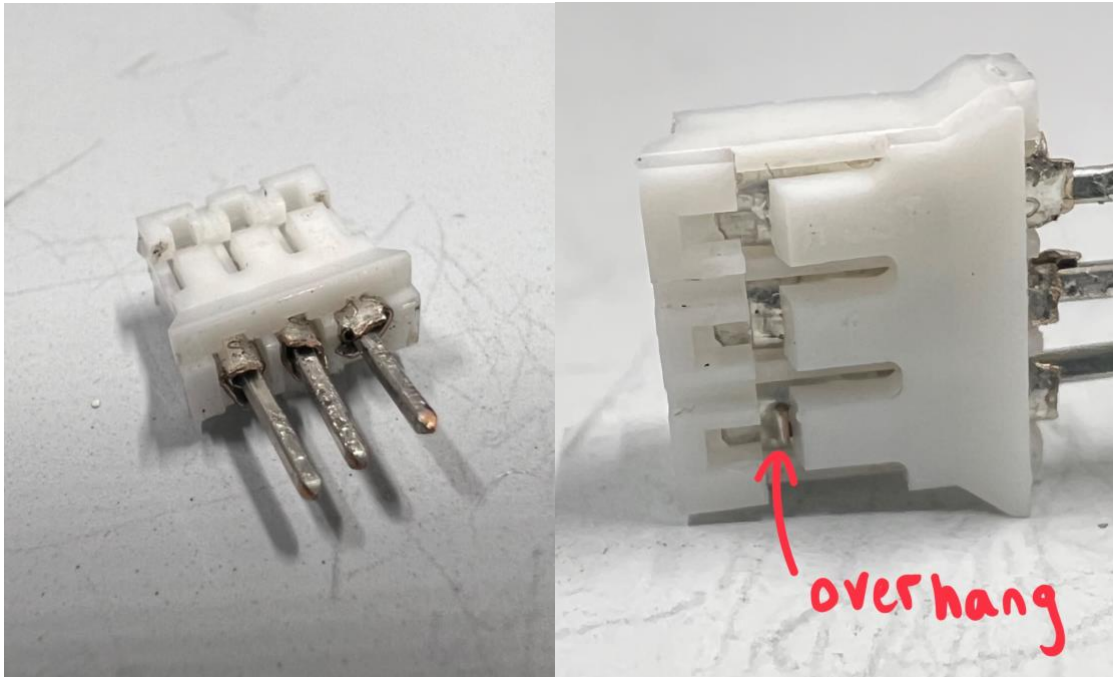

Figure 2.3: Assembled IR transceiver mount.
4. Use your pliers to insert the connectors into the 3-pin female headers, being sure that the side of the Molex connector with the little overhang is the one that faces the holes of the 3-pin female header. This means that the connector should click into place into the female header, as shown in Figure 2.3 below.